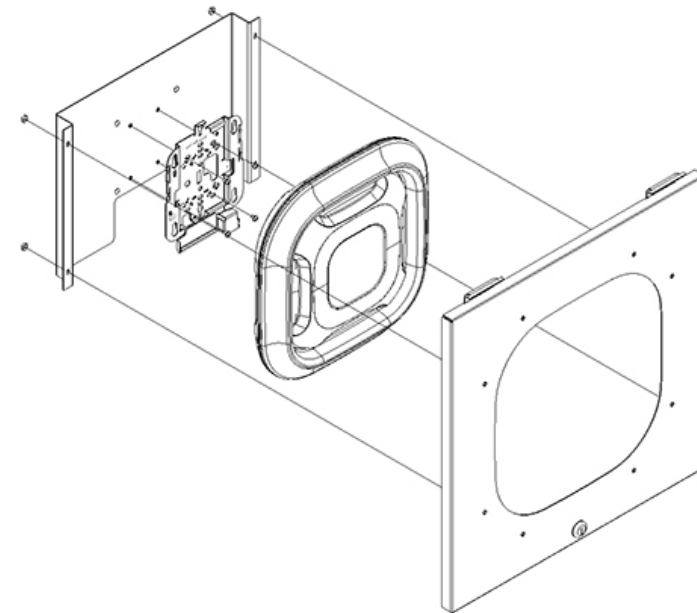

Figure 6
Step 5 – To install the Cisco AP, place the enclosure's door on a flat work surface. Remove the aluminum mounting plate from the door by removing the four (4) nuts that attach the mounting plate. Retain the nuts (Ref. Figure 6).
Step 8 – Place the slotted holes in the mounting plate over the studs located on the bottom side of the door and secure it in place by installing four (4) #8-32 hex nuts. When attaching the Cisco AP, be aware that all of the HLA modules in the building should be pointing in the same direction (reference Cisco documentation for details). To aid in installation, the enclosure's mounting plate can be rotated in any of four (4) different directions (Ref. Figure 6).